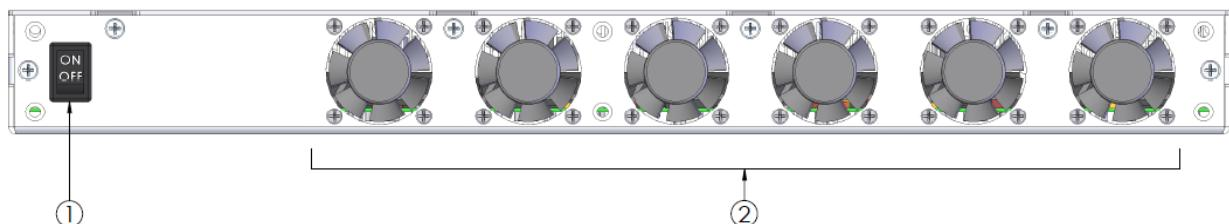
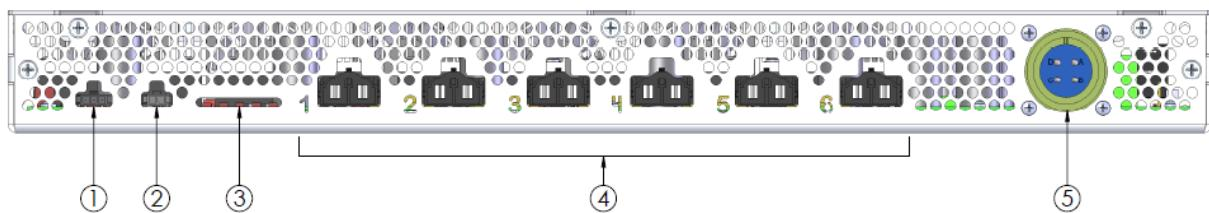

Figure 14: The front of the high voltage DC-DC accessory.
Figure 15: The rear of the high voltage DC-DC accessory.
The front of the unit, pictured in Figure 14, includes the output enable switch (1), and six inlet fans for cooling (2). On the rear of the module, there is a remote enable input(1), module link connector(2), module activity LEDs (3), six 54V output jacks (4) and the 330V input jack (5), shown in Figure 15.